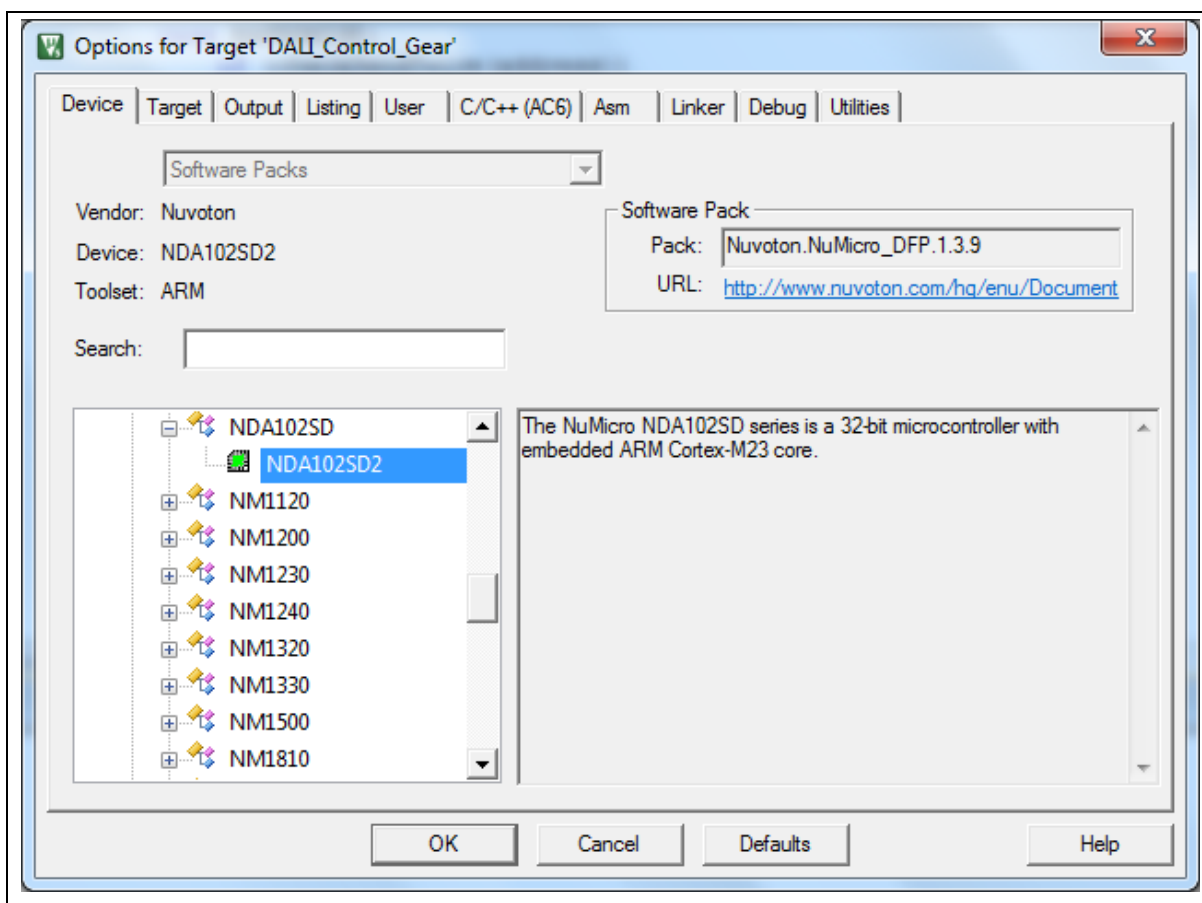
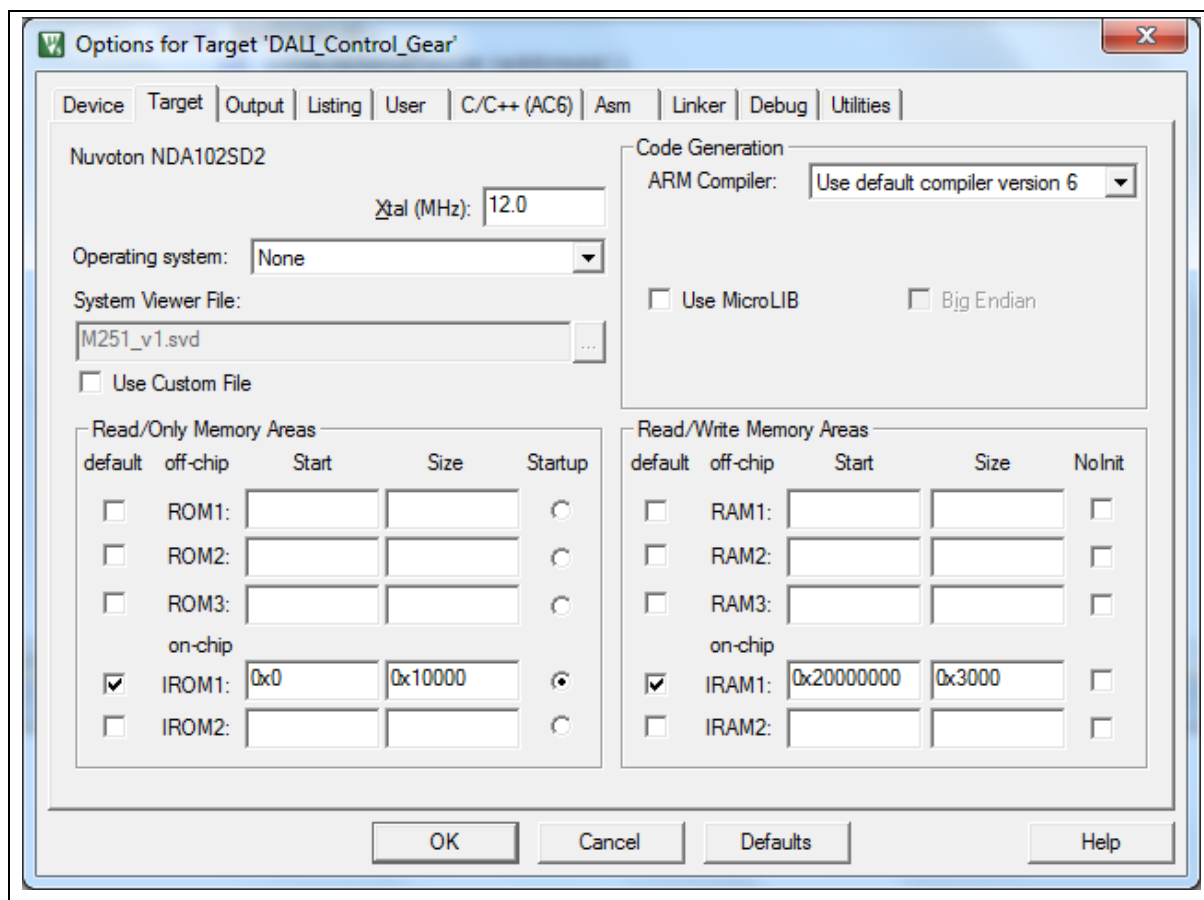

Figure 5-6 “Device” Setting in “Options” Window
Figure 5-7 “Target” Setting in “Options” Window
2. Make sure the “Options” settings are the same as Figure 5-6 and Figure 5-7.